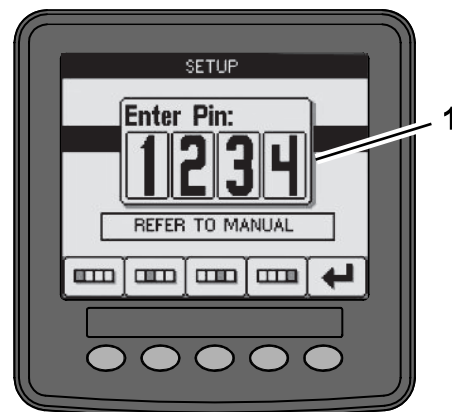

Figure 15
1. In the Setup mode, press any button to access the pop-up menu bar at the bottom of the screen (Figure 15).
3. Enter the PIN number (Figure 15) and select the **ENTER** icon .
3. Enter the PIN number (Figure 15) and select the **RETURN** icon.